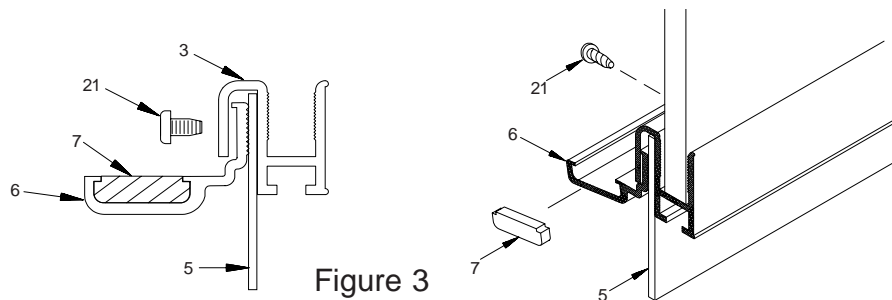

Figure 3
3. Hold bottom rail (3) in place against vinyl channel and drive into place on glass using the block of wood and hammer described above. Start three #6 x 1/4" screws (21) into bottom rail. Insert splash vinyl (5) and drip trough (6) into bottom rail (See Figure 3) and secure by tightening the three #6 x 1/4" screws (21). Keep end of drip trough 3/8" in from latch side of door. Insert drip plug (7) into end of drip channel opposite the hinge rail side.
Note: Drip trough should be installed so it is flush with notch in bottom rail (See Figure 3) and slopes down at the hinge rail side so water will drain back into shower when door is open.